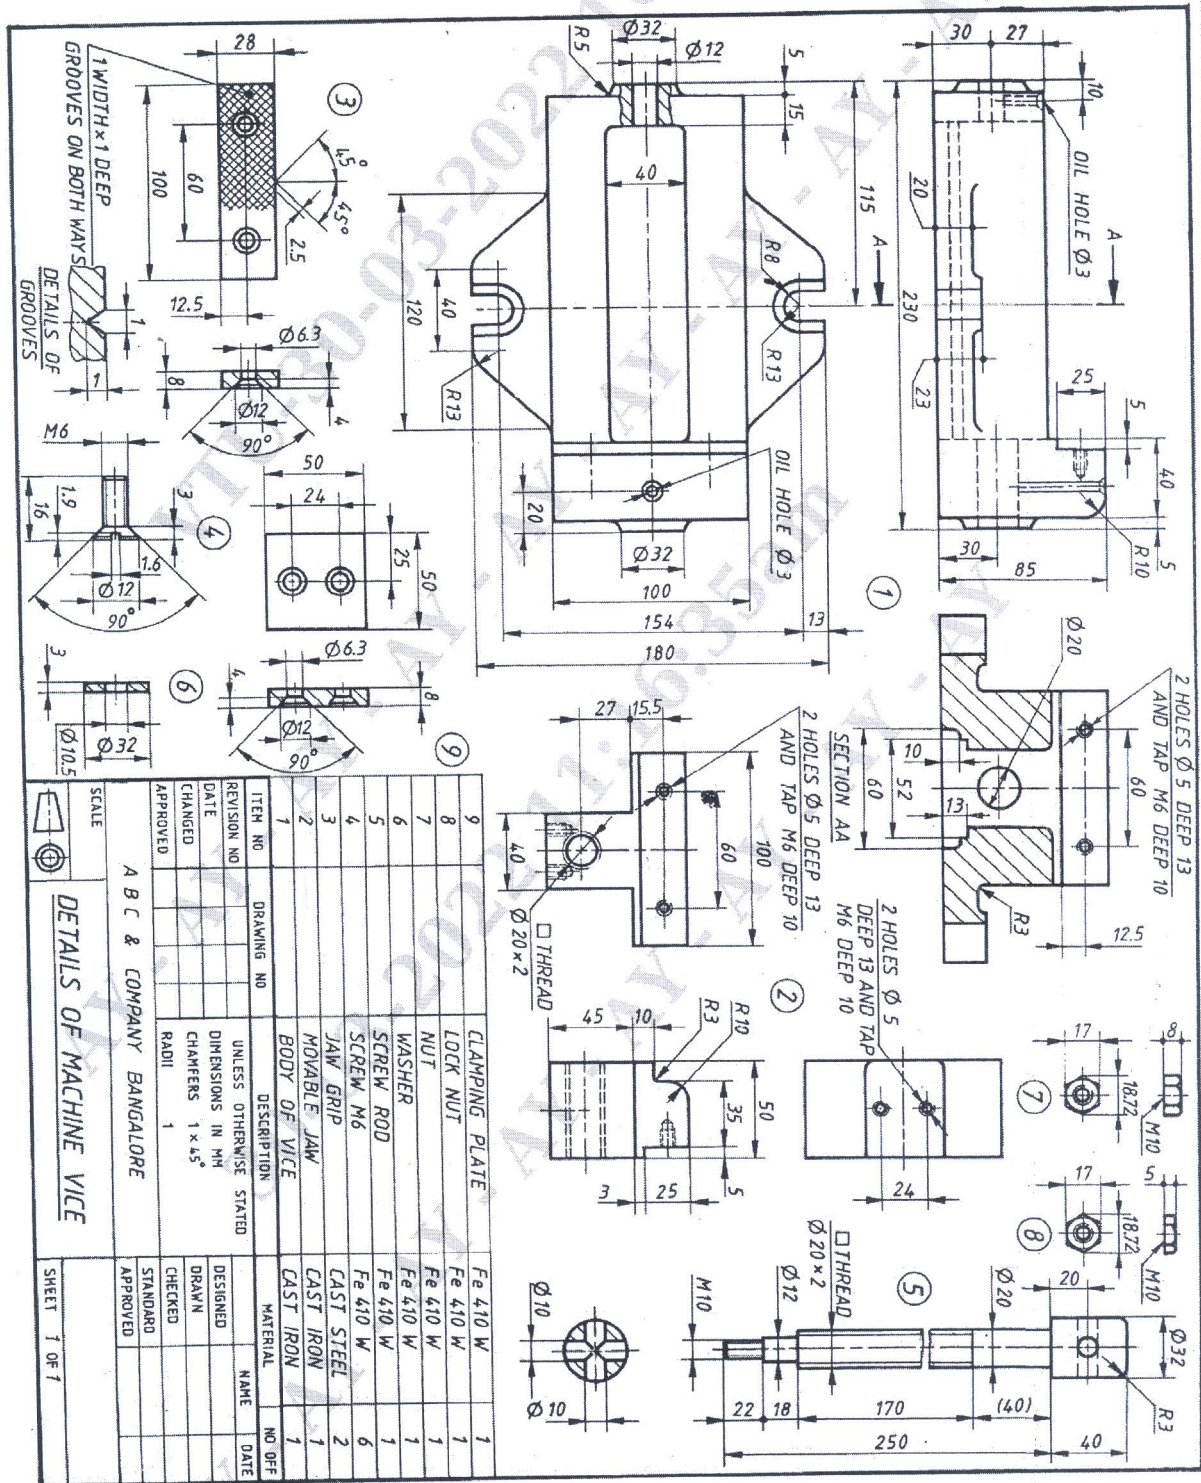

Figure 1 "MACHINE VICE"
Q.No.5 Figure 1 shows the details of a "MACHINE VICE". Assemble the parts and draw